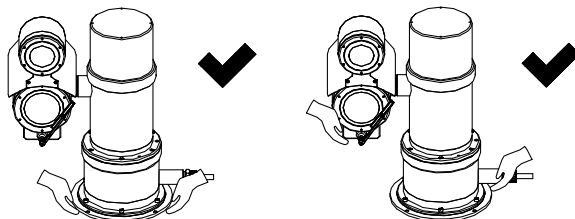

Figure 2-1 Carry the Positioning System
- Carry the positioning system as shown in Figure 2-1.